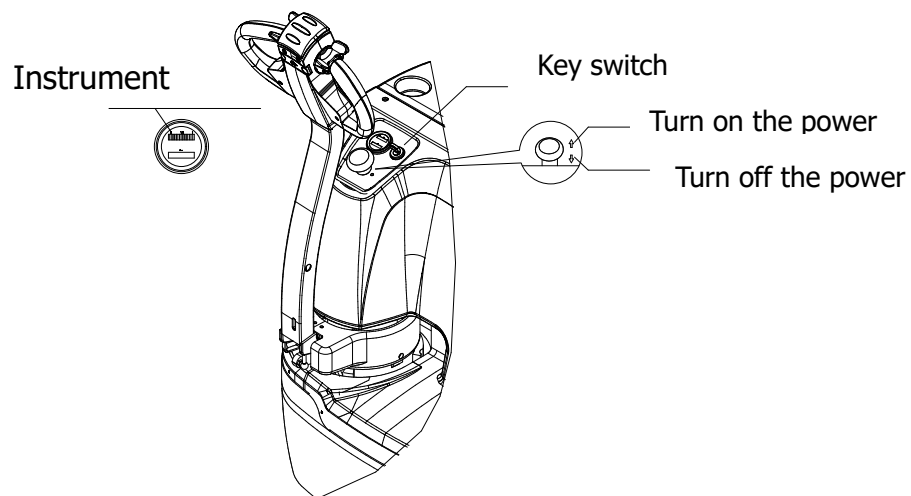

Figure 1
5.1.2.2 Check how much battery power is left. Follow the Fig.1 to turn on the main power supply by pulling out the emergency button and turn on the key switch on the handle to check the BDI on the instrument panel. If the grid closing to the 0 end lights up for low battery power, the battery needs to be charged. It is strictly forbidden to use the truck once the power is low, otherwise, the battery life would be greatly shortened, even makes the battery damaged.
As illustrated in Figure 1, initiate the process by pulling out the emergency power-off switch to activate the main power supply. Subsequently, turn on the key switch and maneuver the stacker (or truck, depending on context) to a location near the cargo stack, ensuring the fork head is positioned 300 mm away from the stack. Press the lowering button to adjust the fork height to a suitable level, then gently and as deeply as feasible insert the forks into the cargo pallet. Activate the raising button until the forks are elevated to a height of 200–300 mm above the ground. Drive the stacker to the shelving area and gradually come to a stop with the fork head maintained 300 mm from the shelf. Press the raising button once more to elevate the forks to an appropriate height on the shelf, ensuring the pallet bottom is approximately 100 mm above the shelf surface. Carefully position the cargo onto its designated spot on the shelf by gently moving the stacker. Press the lowering button to delicately place the cargo on the shelf and ensure the forks are completely disengaged from the load. Gradually drive the stacker to withdraw the forks from beneath the cargo pallet, keeping the fork head 300 mm away from the shelf. Lower the forks to approximately 300 mm above the ground and then steer the stacker away from the shelf. Throughout the driving process, remain vigilant for obstacles in all directions and reduce speed when executing turns.